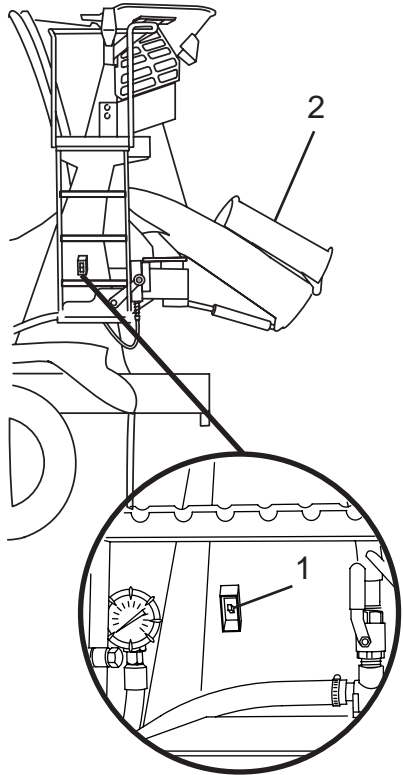

Figure 32
The hydraulic fold-over toggle switch (Figure 32, Item 1) enables the operator to fold or unfold the fold-over chute (Figure 32, Item 2) using a hydraulic cylinder.
3. Press and hold the fold-over toggle switch (Figure 32, Item 1) until the fold-over chute (Figure 32, Item 2) is fully seated against the main chute. Release the switch.
1. Press and hold the fold-over toggle switch (Figure 32, Item 1) until the fold-over chute (Figure 32, Item 2) is fully seated against the main chute. Release the switch.